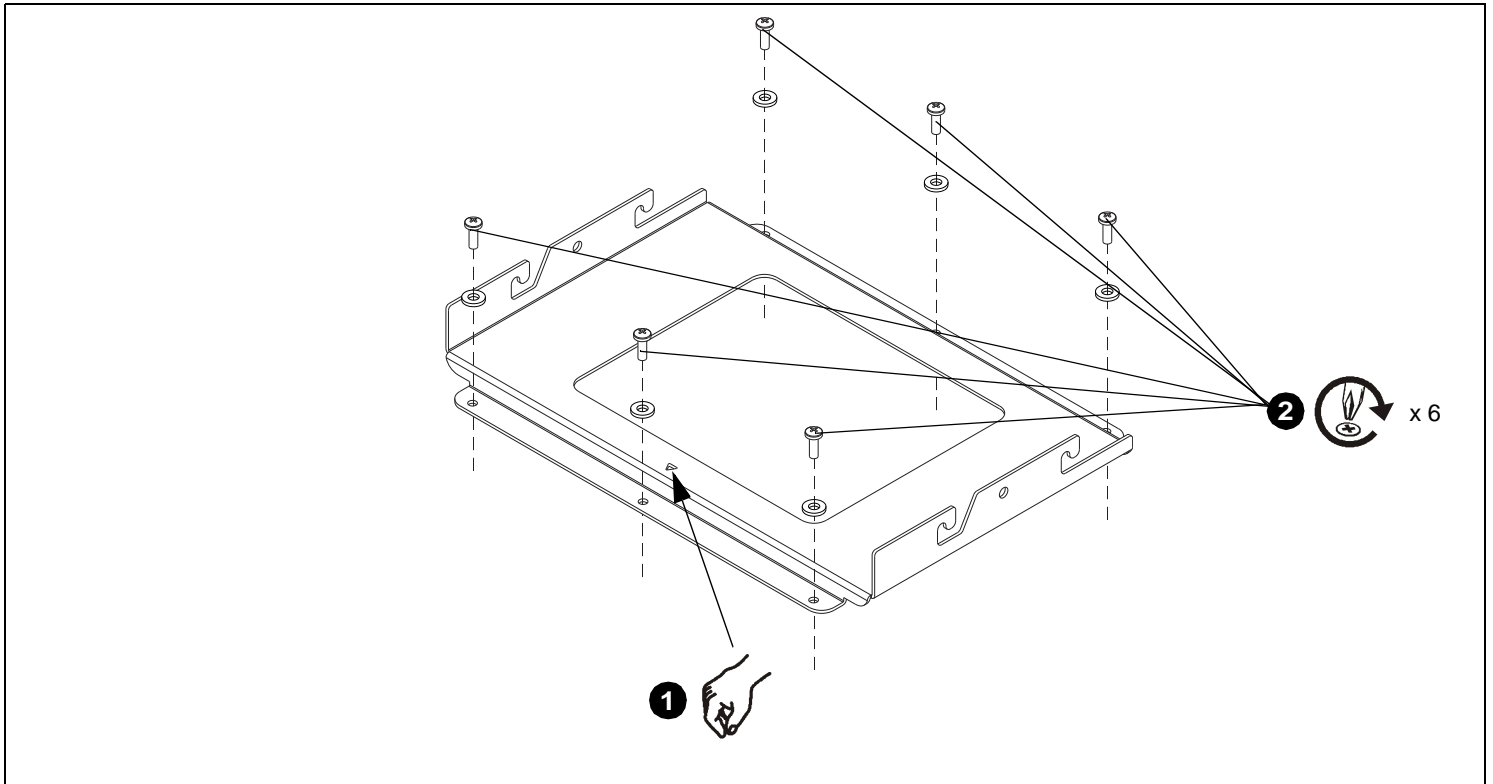

Figure 1
1. Lower custom HB bracket onto top of projector. Ensure that triangle in bracket points toward front of projector. (See Figure 1)
2. Attach HB bracket to projector using six M6 x 12mm Phillips pan head screws through six holes in the HB bracket. (See Figure 1)